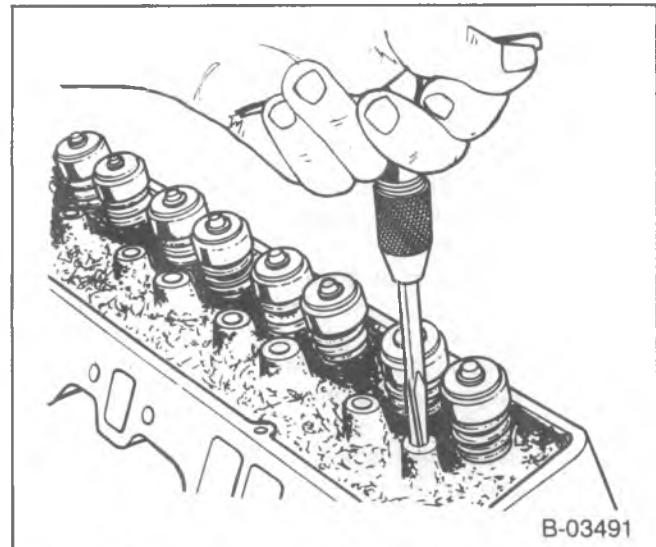

Figure 23—Reaming the Rocker Arm Stud Bore
- Ream the hole to the proper size for the replacement oversize rocker arm stud. Use J-5715 for 0.003-inch oversize studs; J-6036 for 0.013-inch oversize stud (figure 23).